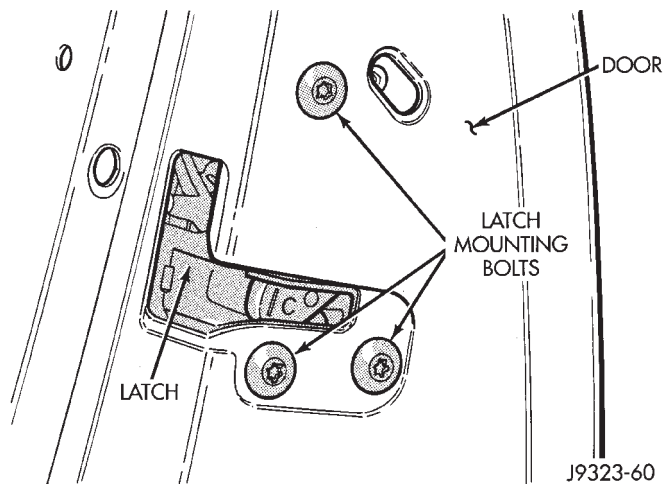

Fig. 17 Door Latch Retaining Screws
- (1) Remove door trim panel and waterdam. If necessary, refer to removal procedure.
- (2) Remove door latch retaining screws (Fig. 17).